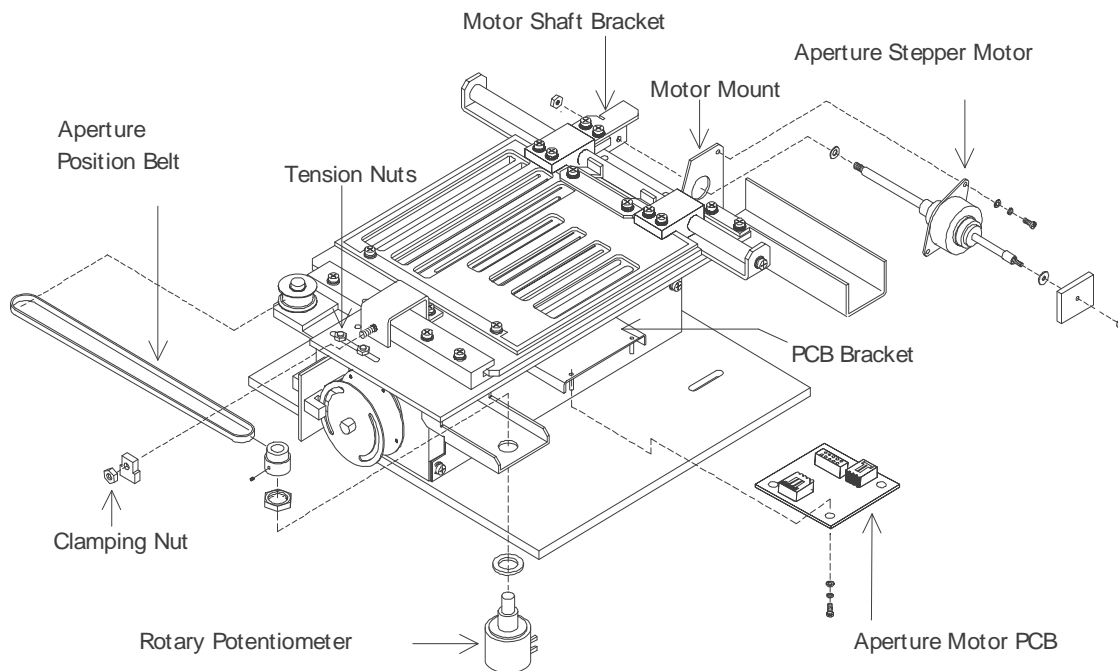
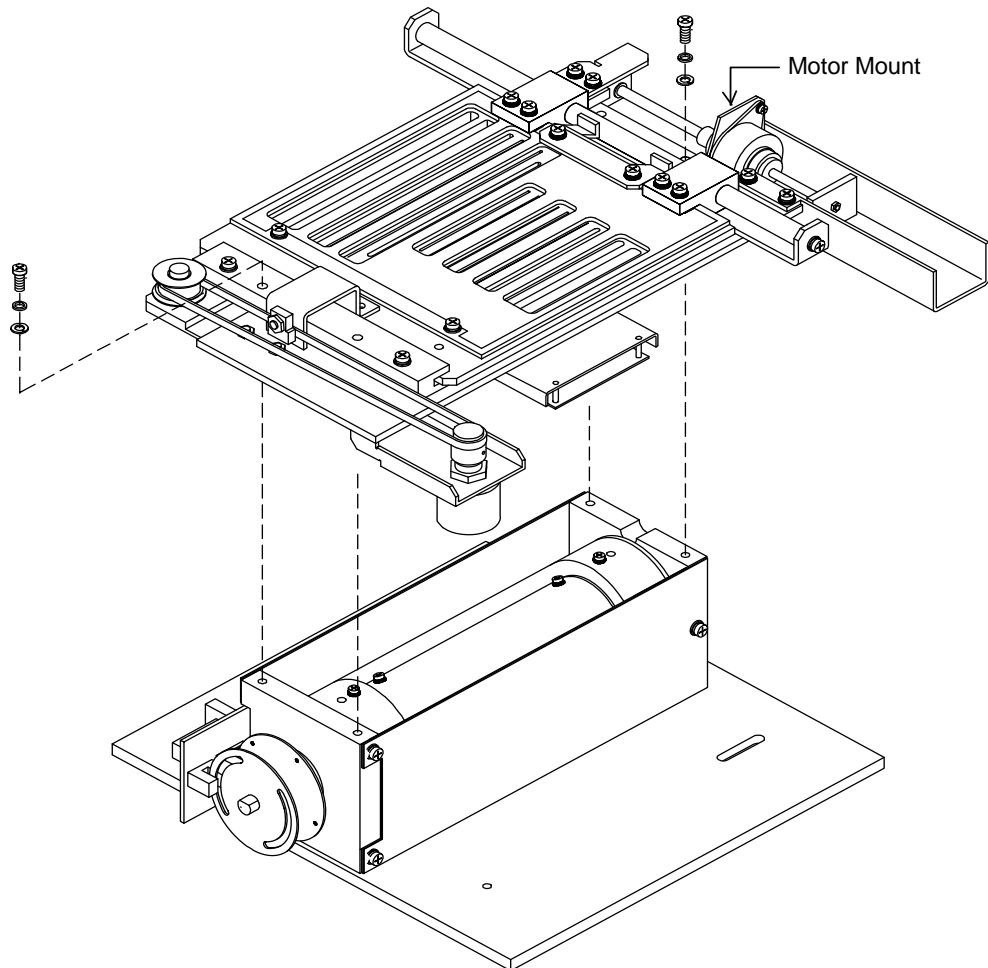
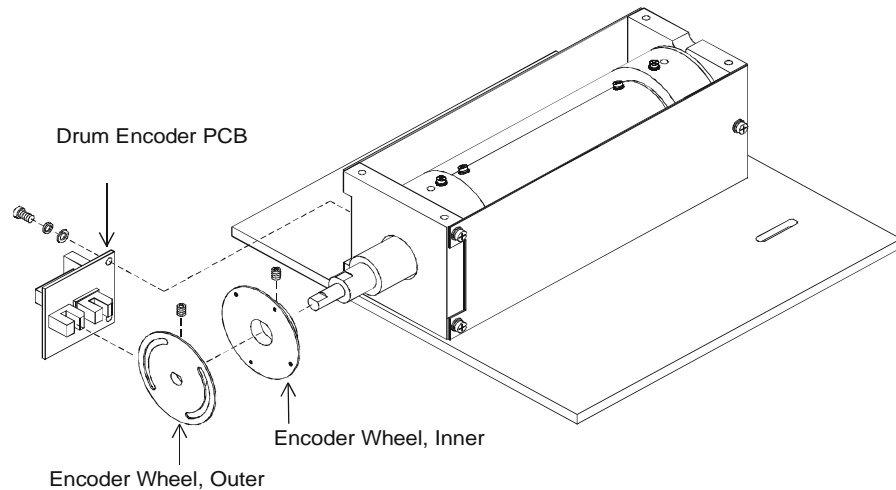

Figure 5-16. Aperture Assembly FRUs
Figure 5-17. Aperture Assembly Removal
Figure 5-18. Rear Drum Assembly FRIS
To remove and replace the Aperture Stepper Motor (320-0041), refer to Figure 5-16 and follow the procedure below:
To remove and replace the Aperture Motor PCB (140-0068), refer to Figure 5-16 and follow the procedure below:
To remove and replace the Aperture Position Belt (255-0032), refer to Figure 5-16 below:
To remove and replace the Rotary Potentiometer (included in the cable assembly 180-0267), refer to Figure 5-16 and follow the procedure below:
To remove and replace the Drum Encoder PCB (140-0089), refer to Figure 5-16, Figure 5-17 and Figure 5-18 and follow the procedure below:
To remove and replace either Drum Belt (130 teeth or 150 teeth), refer to Figure 5-18 and follow the procedure below:
2. Remove the Aperture Assembly by removing 4 Phillips screws that secure the assembly, and 2 Phillips screws that secure the aperture motor mount, to the drum end plates (refer to Figure 5-16).
To remove and replace the Stepper Motor Assembly, refer to Figure 5-18 and follow the procedure below:
2. Remove the 2 drum motor mount screws (see Figure 5-18)
15. Install the spacers and pulleys at the front endplate (see Figure 5-18). Ensure that the pulley set screws line up with the flat, and use Loctite 222 on set screws. Press the filter drum against the fixture, and the pulley against the endplate, while tightening the set screw.
17. Replace the inner encoder wheel (see Figure 5-17). Press (squeeze together) the drum and encoder wheel against the endplate and tighten the set screw (use Loctite 222).